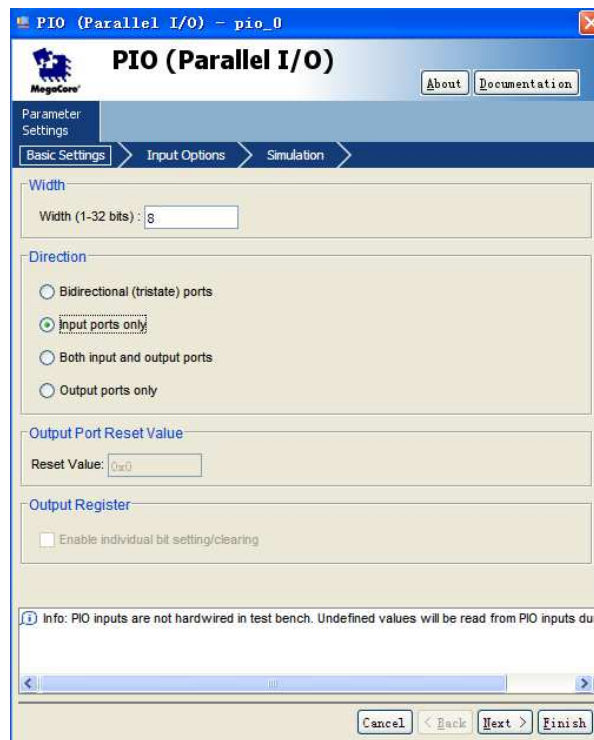

Figure 10. Define a parallel input interface.
- Select **Avalon Components > Other > PIO** (Parallel I/O) and click Add to reach the PIO Configuration Wizard in Figure 10